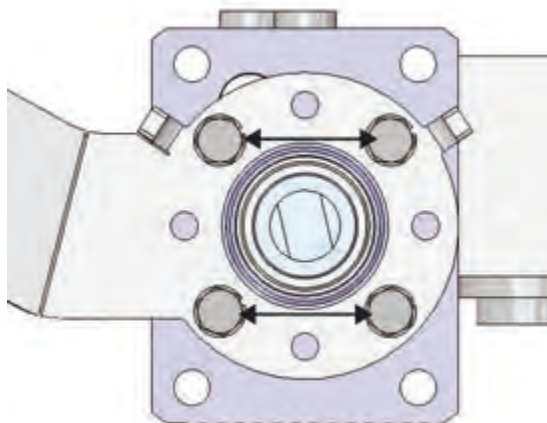

Figure 38. Support plate fastening screws
3. Open the fastening screws (four in total, figure 38) that attach the support plate to the cylinder.